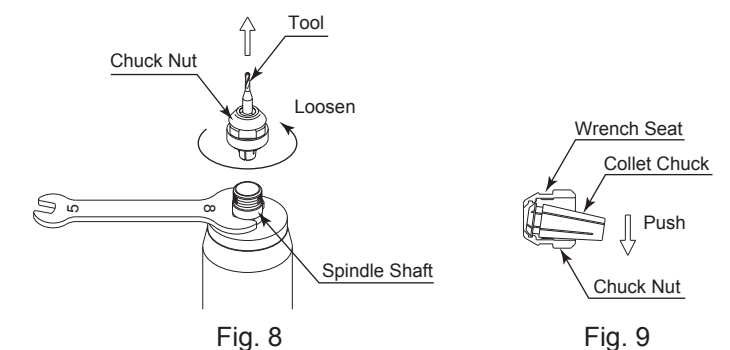

Fig. 8
- Remove the tool according to the section "4. CHANGING THE TOOL" procedure above and remove chuck nut assembly (Fig. 8).